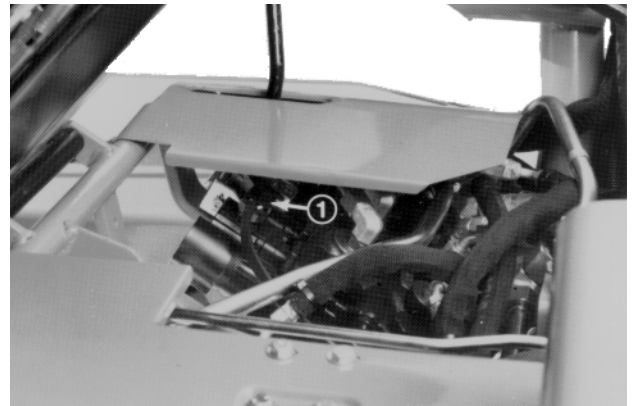

Figure 13
1. Sit on the seat. Engage the parking brake and fully depress the lift pedal and release it. Move the shift selector to the #1 and #2 positions while, at the same time, trying to start the engine in each position. The engine should not crank, which means the traction switch on the valve bank is functioning correctly (Fig. 13). If the engine did not crank, proceed to step 2. If the engine cranked, there may be a malfunction in the safety interlock system.